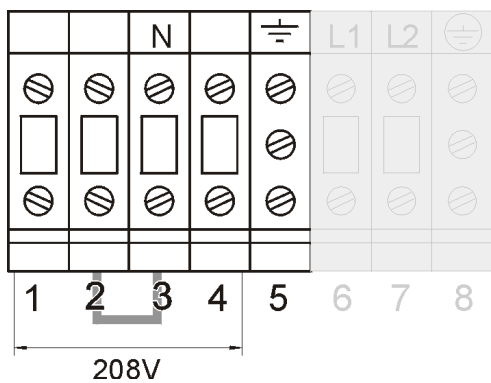

Figure 11. LP 5/6/8/10-11U: 208 Vac output connection
2. Connect the ground wire to terminal 5. Ground connection is essential! See figure 11.